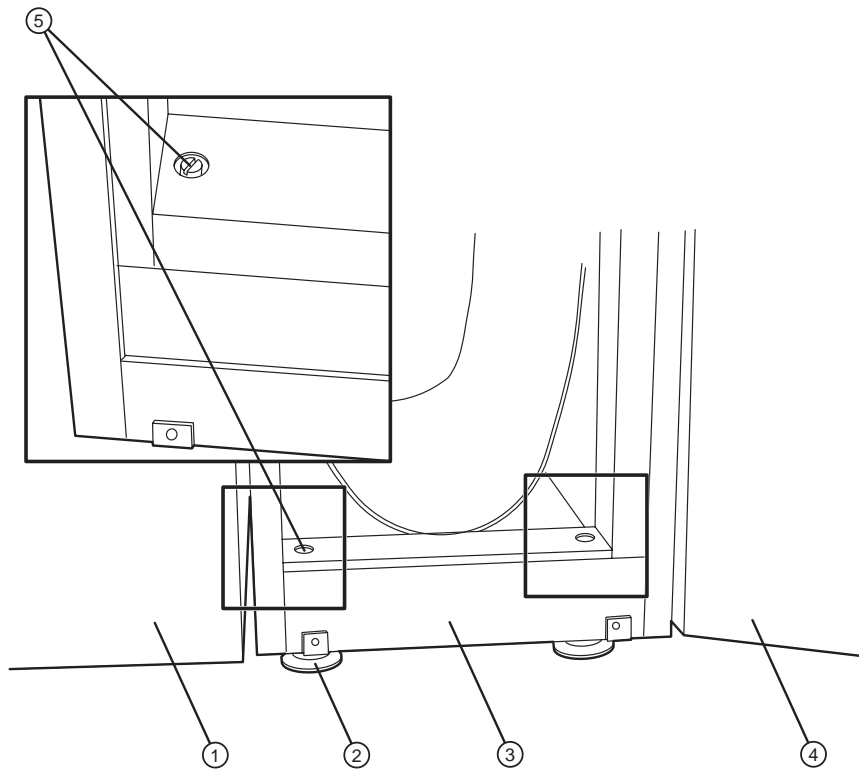

Figure 1-13 The buffer's adjustable legs.
16. Screw the buffer leveling feet about one full turn so that the buffer is flat against the imagesetter. Align the mounting holes by adjusting the leveling feet. Refer to Figure 1-13.